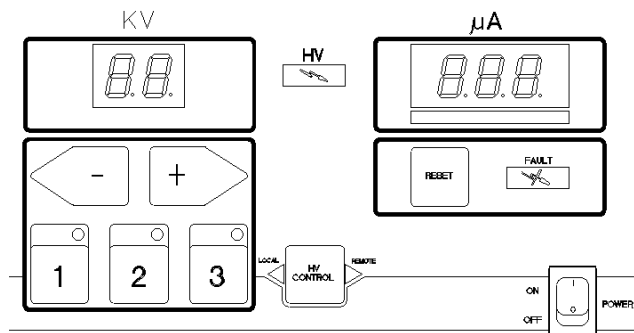

Figure 3: 9060 Operator Interface
The 9060 Controller shown in Figure 3, has a simple operator interface consisting of 7 LEDs (Light Emitting Diodes), one (1) power switch, seven (7) buttons, one (1) current LED bargraph, and two (2) screens containing seven-segment displays. The following describes the behavior of the interface components used with the No. 2 Process Handgun.
This button, shown in the center of Figure 3, has no currently defined behavior. The unit is placed in LOCAL mode at power-on and should remain in LOCAL mode while the unit is configured for use with the No. 2 Process Handgun.